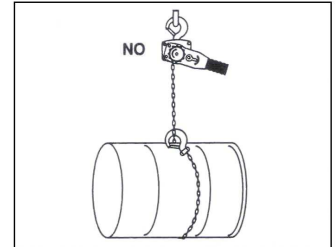

FIGURE 2
10. DO NOT wrap load chain around load, or use load chain as a sling.(Fig. 2)